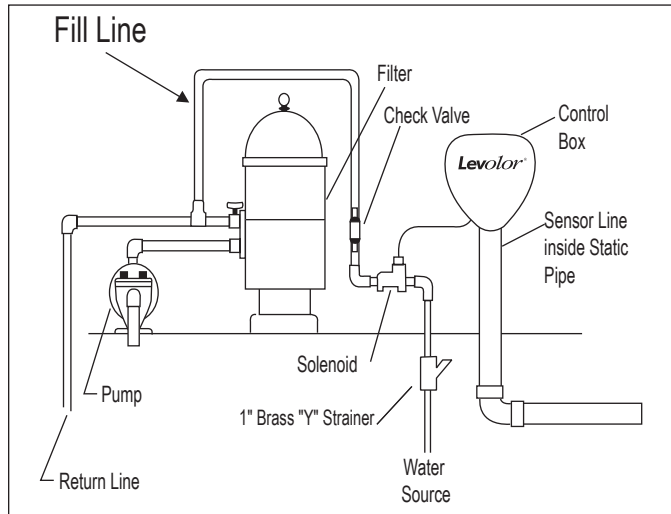

Figure 2. LX/2 Installation
1. Mount the control box in the static pipe where the sensor is installed. See Figure 2.
- b. Use the round sensor to mount vertically in a static pipe. Cut off the unused end. See Figures 2 and 14.